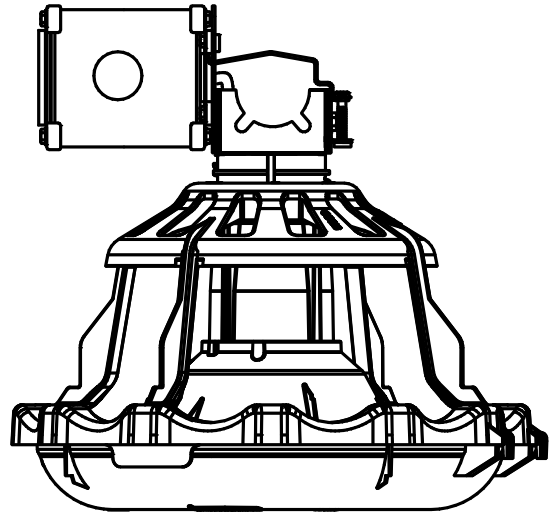

Figure 65. Electronic Control Installation
1. Assemble the Mid-Line Control to the Feeder Tube, as shown in **Figure 65**.
2. Attach the Switch Box Assembly to the Feeder Tube with Hose Clamps as shown in **Figure 65**.